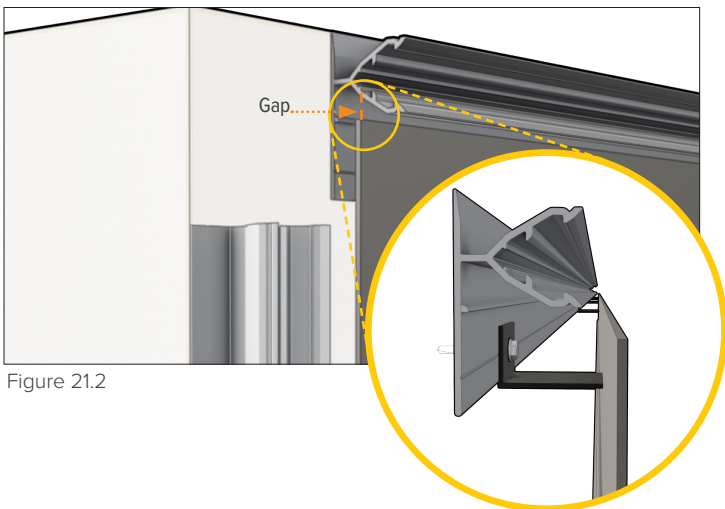

Figure 21.2
26. To install the last Plank measure the space between the groove in the Plank and the J Trims back plate and cut the last Plank one eighth of an inch less and install. The top edge of the Plank should rest against the Plank Backers previously installed. (Figure 21.2)